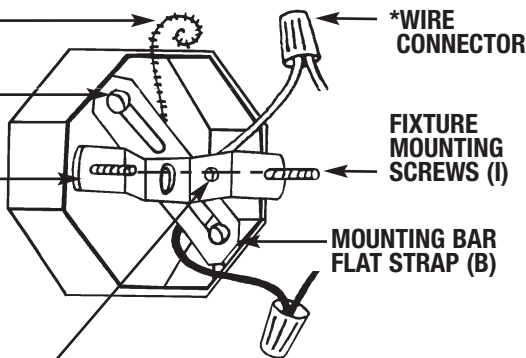

FIGURE 2
**GROUNDING INSTRUCTIONS:** The green grounding screw (G) is to be inserted into the hole with two raised dimples provided on the mounting bar (C). Wrap the ground wire from the fixture (if supplied) and the ground wire from the outlet box (bare metal or green insulated wire) around the green grounding screw (G) on the mounting bar (C). If uninsulated ground wire is on the cross mounting bar, connect the ground wire from the fixture (if supplied) and the outlet box to it using a small wire connector (not supplied) (See Figure 2). **NEVER CONNECT GROUND WIRE TO BLACK OR WHITE POWER SUPPLY WIRES.**